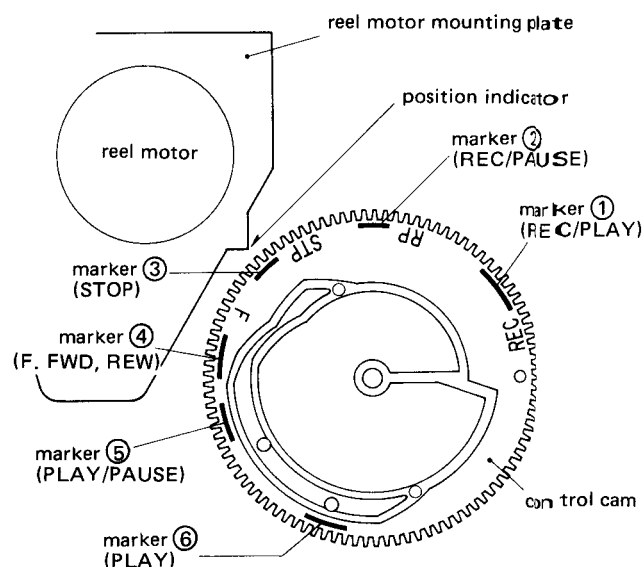

Fig. 4-4 Control cam positioning
2. Push PLAY (▶) button together with REC button, then check that the center of marker ① coincides with position indicator of the reel motor mounting plate. If not, adjust by using R32.
3. After pushing STOP button, depress the PLAY button. Then check that the center of marker ⑥ agrees with the indicator. R33 is provided for this adjustment.
4. Pushing the STOP button, check that the center of marker ③ coincides with the indicator as shown in Fig. 4-4. R31 is for this adjustment.
5. Check that when in REC/PAUSE mode the indicator is within range of marker ②.
F. FWD and REW modes: marker ④.